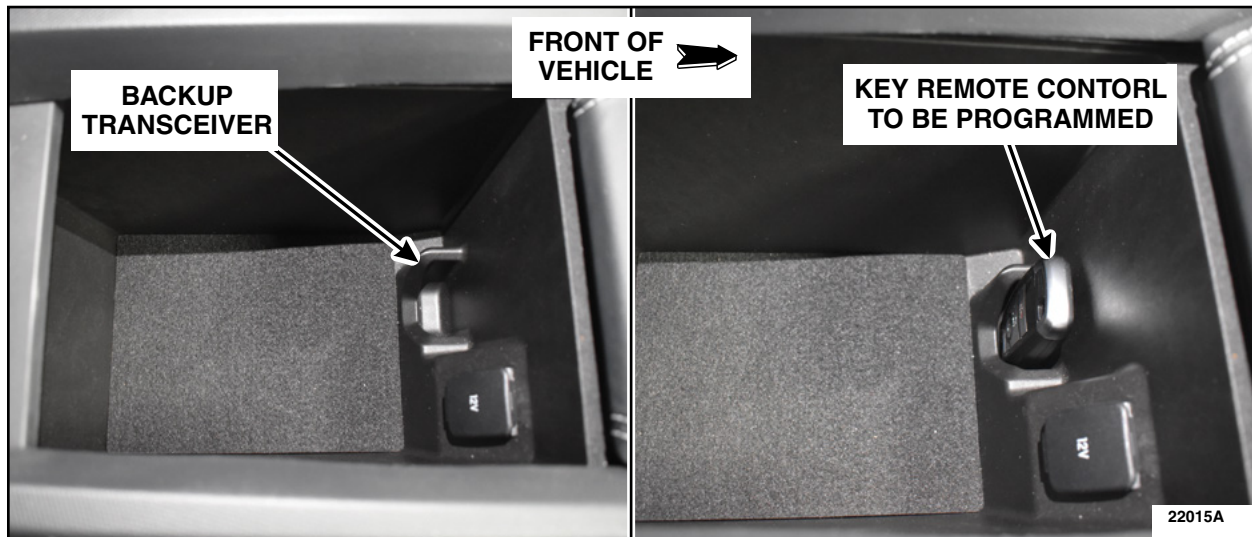

FIGURE 1
9. When prompted, place the key remote control that is to be programmed onto the backup transceiver located inside the center console compartment then click OK. See Figure 1.